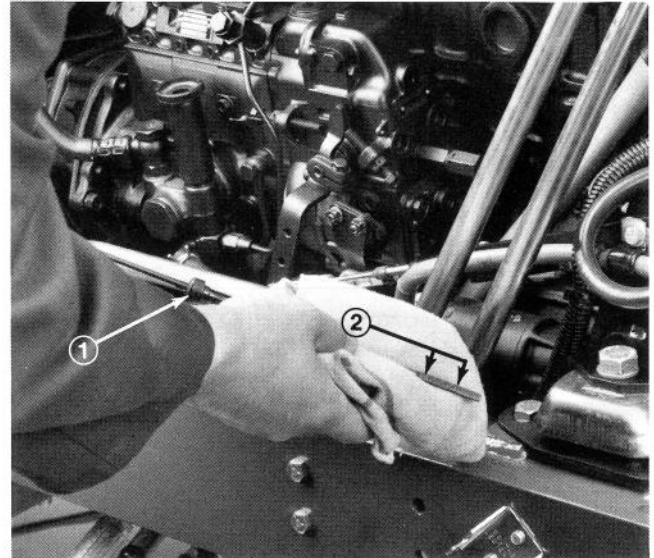
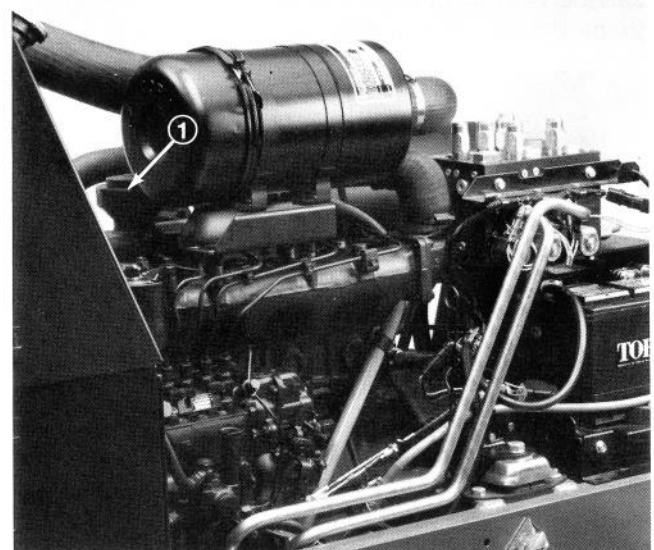

Figure 33
Figure 34
2. Remove dipstick, wipe with clean rag (Fig. 33) and fully re-insert in tube. Remove from tube and check oil level. Level should be between the marks on the dipstick. If level is low, remove filler cap (Fig. 34). Add oil until level is to top mark on dipstick (Fig. 33). **DO NOT OVERFILL.**
1. Locate fuel filter/water separator on lower left side of engine and drain daily (Fig. 34).